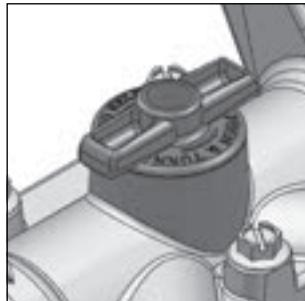

Figure 1.3
- Insert the plug and then rotate $\frac{1}{4}$ turn clockwise as shown in **figure 1.3**.